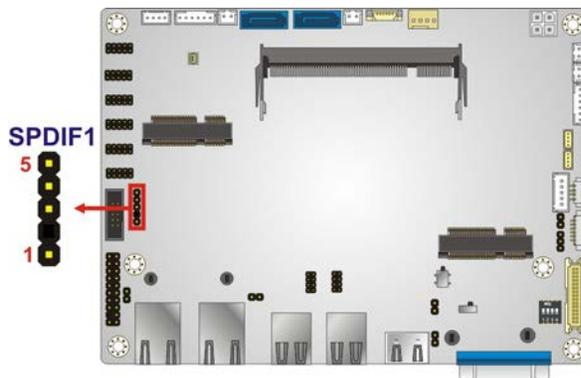

Figure 3-26: SPDIF Connector Location
- CN Location:** See **Figure 3-26**